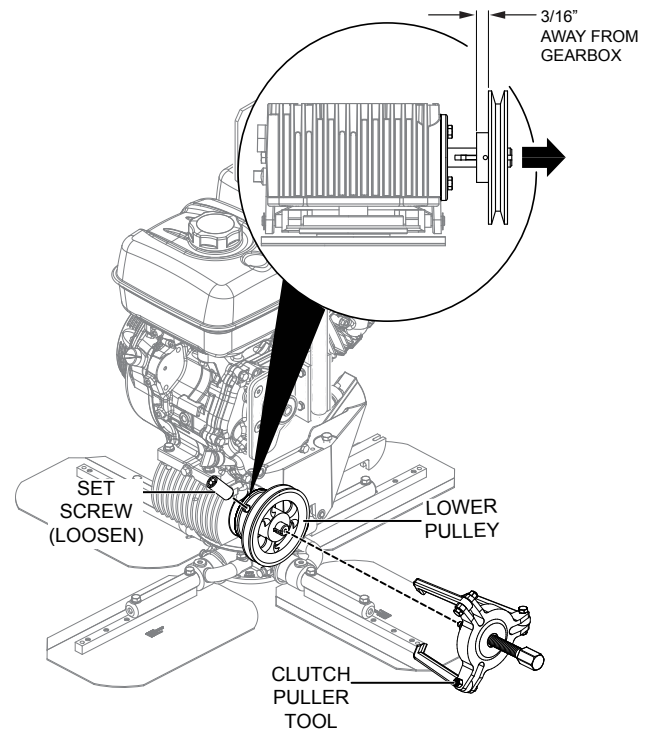

Figure 9. Lower Pulley Adjustment
4. Using a 4mm-5mm allen head key, tighten the two clutch set screws (Figure 9).
1. Using an allen head key, loosen the lower pulley set screw as shown in Figure 9.
2. Using a clutch puller tool (Figure 9), move the lower pulley 3/16" away from the gearbox.